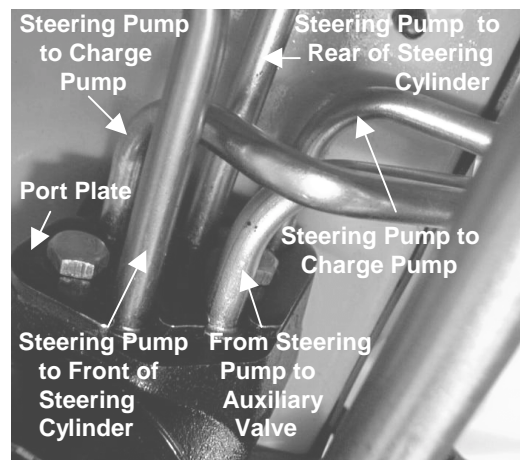

Figure 3
- B) Remove and retain both bolts securing the steering pump port plate to the steering pump. Pivot the top edge of the port plate backward (toward the left frame rail), bringing the plate to horizontal. Push the port plate up and rotate the port plate counter-clockwise 90 degrees using the main pressure line as the pivot point. Slide the port plate towards the left frame rail until the port plate clears the hydraulic lines. Retain the steering pump port plate. Remove the auxiliary hydraulic tube (From Steering Pump to Auxiliary Valve) and discard. Retain and inspect O-Rings. If damaged, furnish from service parts new O-Rings as needed. See Figure 3.